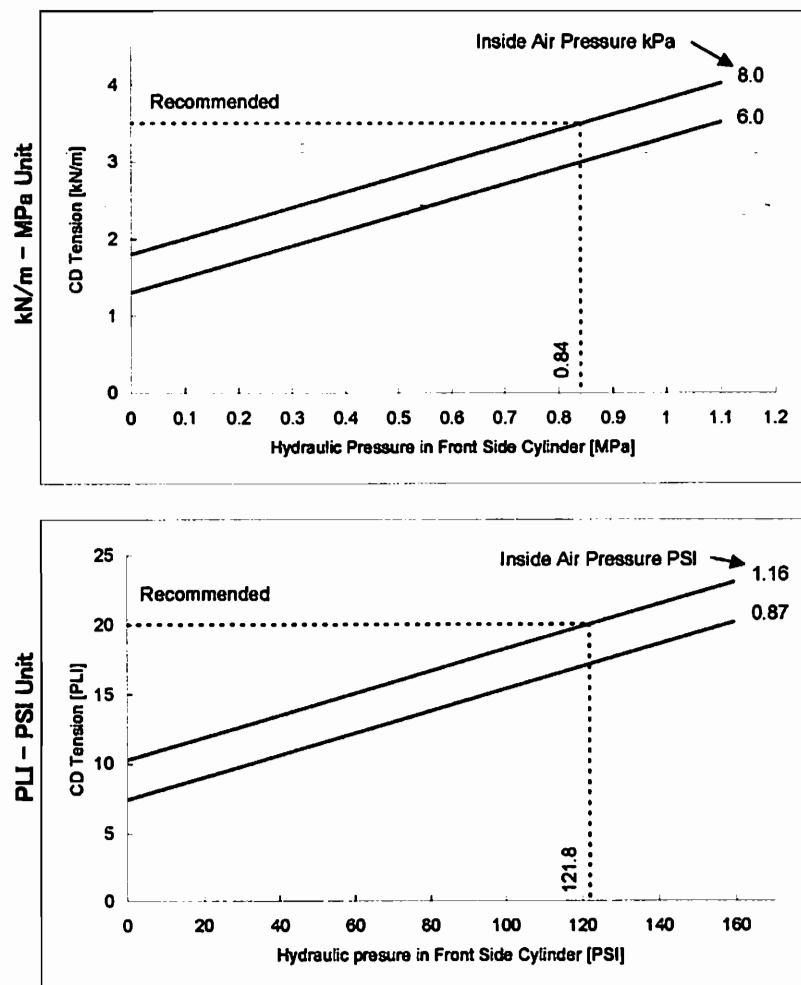

Fig 3-5 CD Tension
During the normal operation, blanket needs circumferential tension (MD) and cross-machine directional tension (CD). Circumferential tension is controlled by the very low air pressure inside the blanket loop. (Refer Table 3-1) Cross-machine directional tension is controlled by the pressure for hydraulic cylinder installed at front inside, which pressure is related to the inside air pressure. (Refer to Fig 3-5)